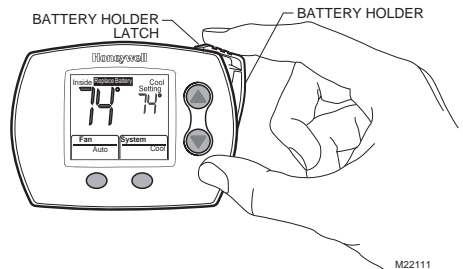

Fig. 24. Battery holder.
2. Replacement Battery Holder (see Fig. 24):